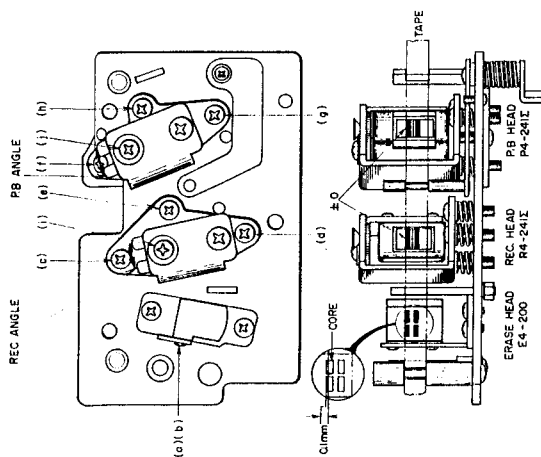

Fig. 10
3. HEAD ANGLE ALIGNMENT (Refer to Fig. 10)
1. HEAD HEIGHT ADJUSTMENT (Refer to Fig. 10)
- a. Loosen screws (a) and (b) shown in Fig. 10 and adjust erase head height. Tighten screws at position at which the upper edge of the tape is 0.1 mm lower than the upper edge of the left channel head core of the erase head.
- a. Adjust head height adjustment screws (c) and (d) shown in Fig. 10 so that the upper edge of the tape and the upper edge of left channel head core of the recording head are the same height.
2. HEAD AZMUTH ALIGNMENT (Refer to Fig. 10)
- a. Adjust head height adjustment screws (f) and (g) shown in Fig. 10 so that the upper edge of the tape and the upper edge of left channel head core of the playback head are the same height.